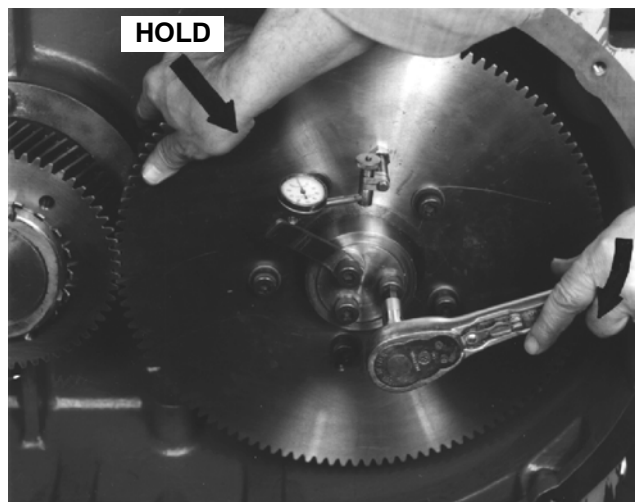

FIGURE 28
28. Install the timing gear (8) on the hub, FIGURE 28, which is a slip fit. If gear teeth were marked at disassembly, line up these marks. New gears are not marked and should be positioned so tapped holes in the hub are centered with holes in the gear to allow radial movement of the gear for timing. Tighten the “Nylok” screws (48) against the flat washers (57) (always use new washers) just tight enough to allow the gear to slip radially on the hub. Mount an indicator and button bracket as shown in FIGURE 28. In order to accurately follow the next four steps in timing, the indicator must be mounted in a clockwise position from the bracket. The gear has a 3/8-16 tapped hole for indicator support. When the indicator is mounted, hold the gear from rotating and with a wrench in one of the hub retainer screws, move the shaft in a clockwise direction until all slack is taken out of the gears and rotors to give a metal-to-metal contact. To prepare for the first reading, set the indicator at zero.